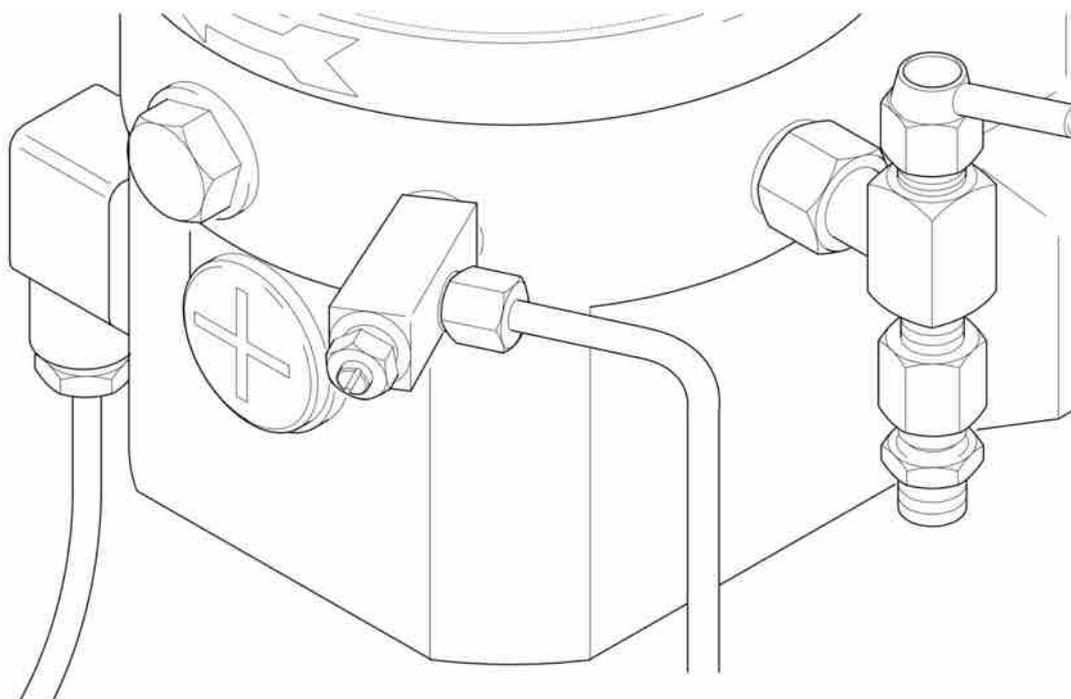

Fig. 10 - Return connection with filler nipple
- "Excess" lubricant after dosage to the primary distributor must be led back to the pump through the return connection (Fig. 10).